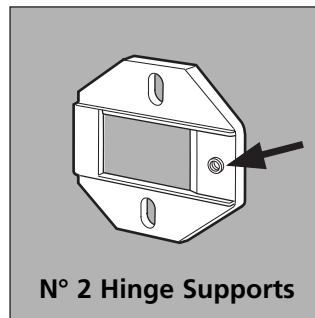

Fig. 1
- Mount the hinge supports onto the face of the machine, positioning the hole indicated by the arrow in fig. 1 towards the inside of the face and using the type C screws.